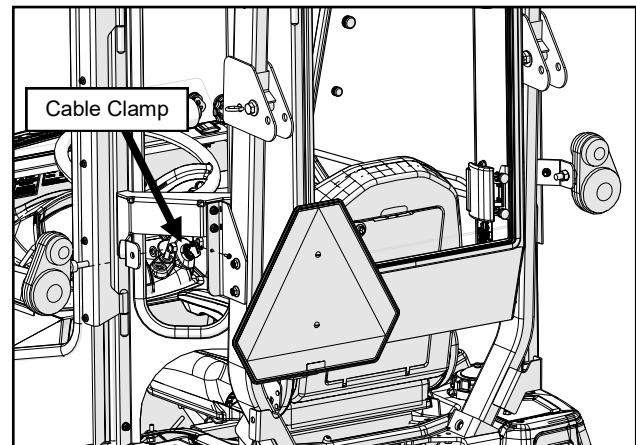

Fig. 30.3 (Relocate Rear Lights)
30.3 Thread the light wires through the hole in the light mount bracket and re-install the washer and nut. See Figure 30.3. Make sure the light is not crooked and tighten the nut.
30.4 Connect a rear light extension harness to the left rear light bullet connectors. Run the harness under the rear light mount and secure it with a cable clamp. See Figure 30.3.